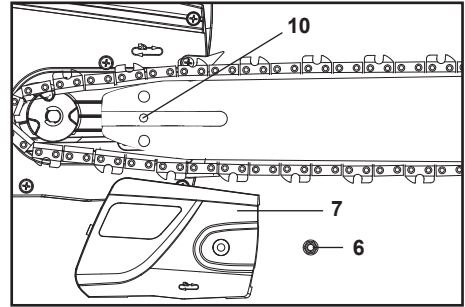

Fig. 1f
8. Pre-tighten the saw chain (3) turning the tension screw (9a) clockwise with the multitool (23).
9. Replace the cover (7) and slightly tighten the retaining nut (6) (Fig. 1f).